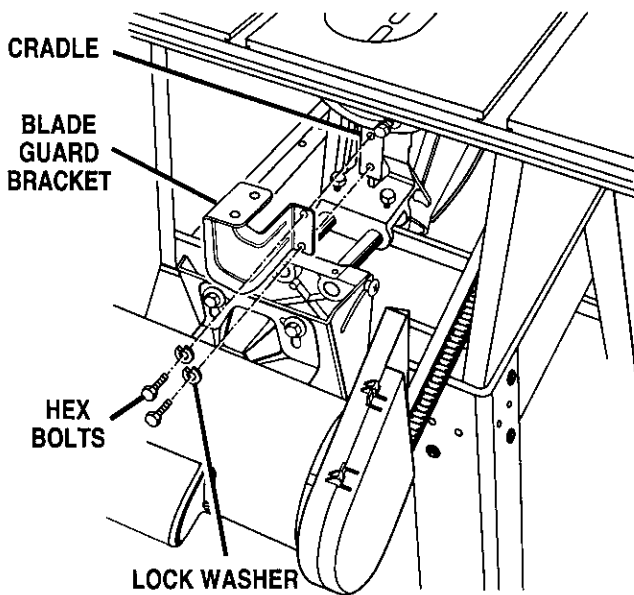

Fig. 29
See Figures 29, 30, and 31.
- Align the lower end of the blade guard bracket and the threaded holes of the cradle and insert the two hex bolts and lock washers. Securely tighten with a 12 mm wrench. See Figure 29.